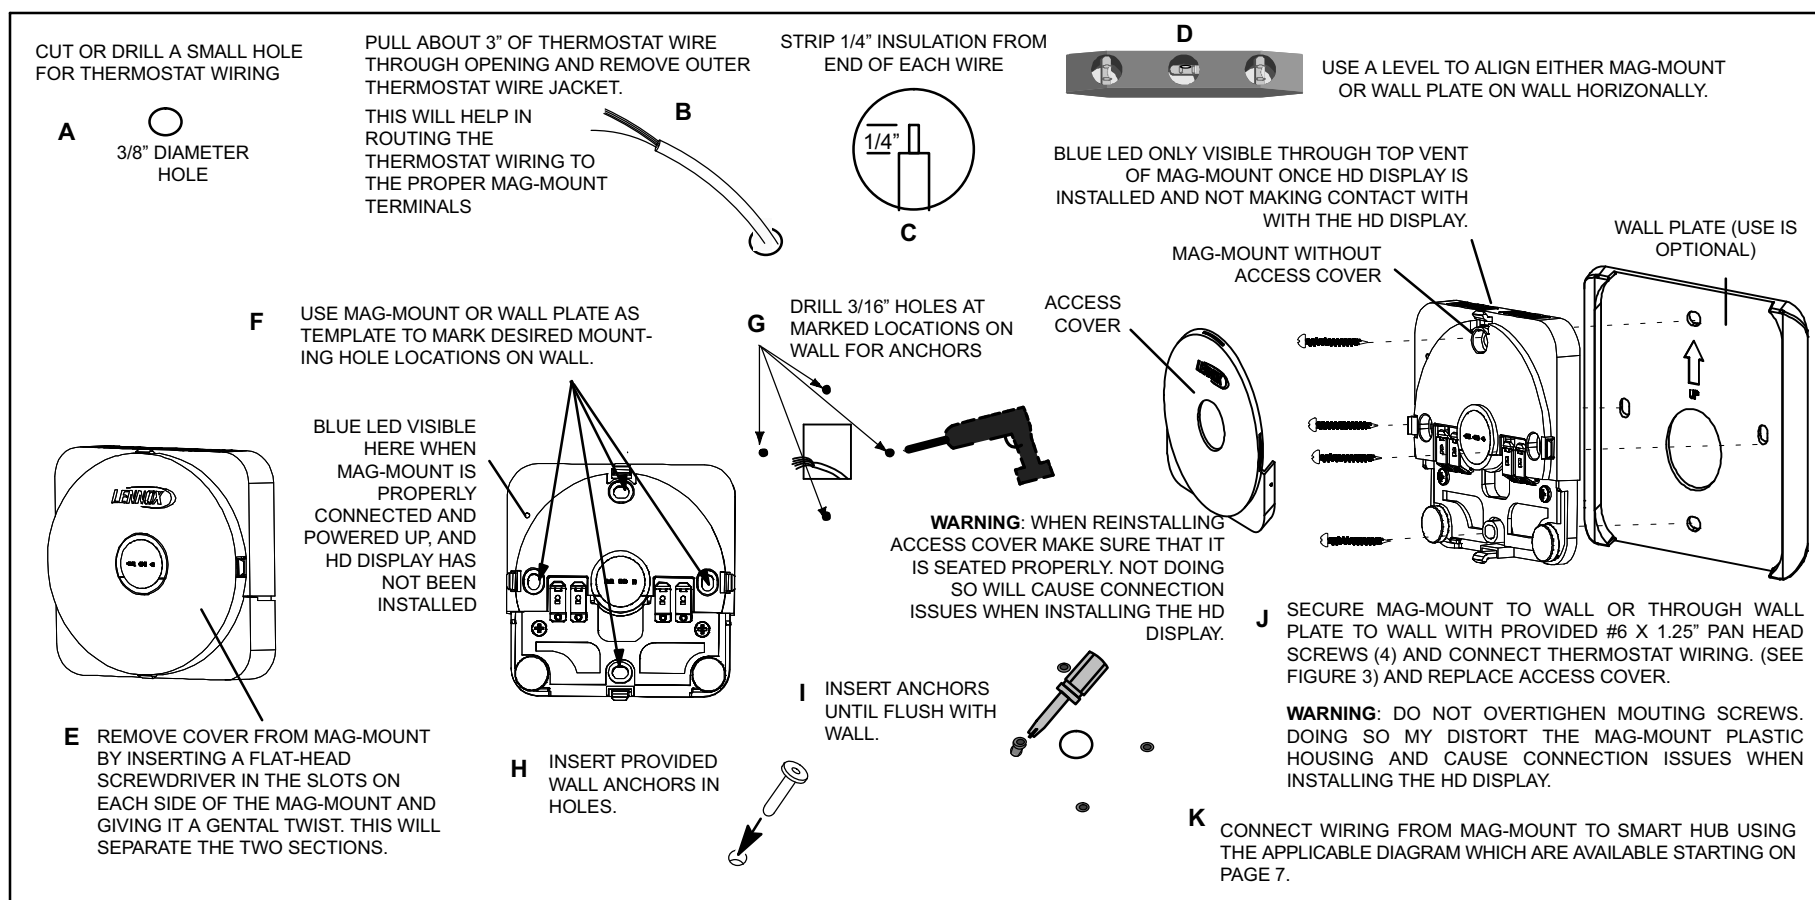

Figure 2. Mag-Mount Installation
2. Install Mag-Mount in desired location away from direct sunlight or any discharge vents. Use the procedures provided in figure 2, steps **A** through **J**.
LED: A blue LED is visible on the front of the Mag-Mount when it is connected, powered up, and the HD Display has not been installed (see figure 2, step **F**) or through the top vent of the mag-mount near the top-left corner. (see figure